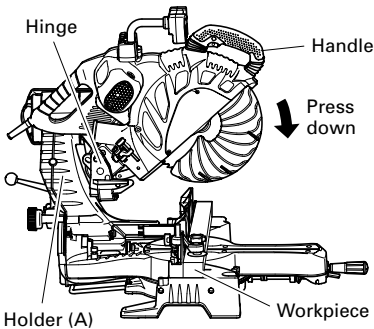

Fig. 27
Slide the hinge down to holder (A), then tighten the slide securing knob (A)/(B) (see Fig. 2) as indicated in Fig. 27.